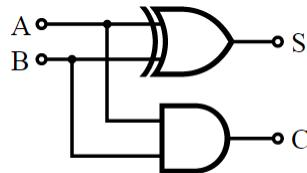

Figure 1: logic design of half-adder
The digital logic of a standard half adder is shown in Fig. 1. As discussed in Section 1.1, we start with the zeroth step which is the specification. To implement the half adder, there are two boolean inputs and also two boolean outputs; one output generates the sum (S), and the other output generates the carry out (C). The required functionality involves XORs of the two inputs to generate S and ANDs of the two inputs to generate C. You now have a complete specification of a half adder.